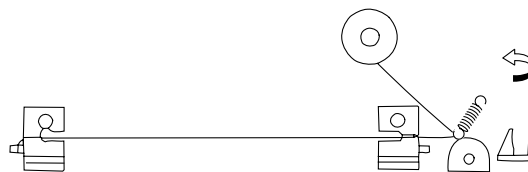

Figure 4-326
- 6) Hook the charging wire on the charging wire positioner at the rear; then, hook the wire on the charging wire tension spring as shown in Figure 4-326, and twist it.